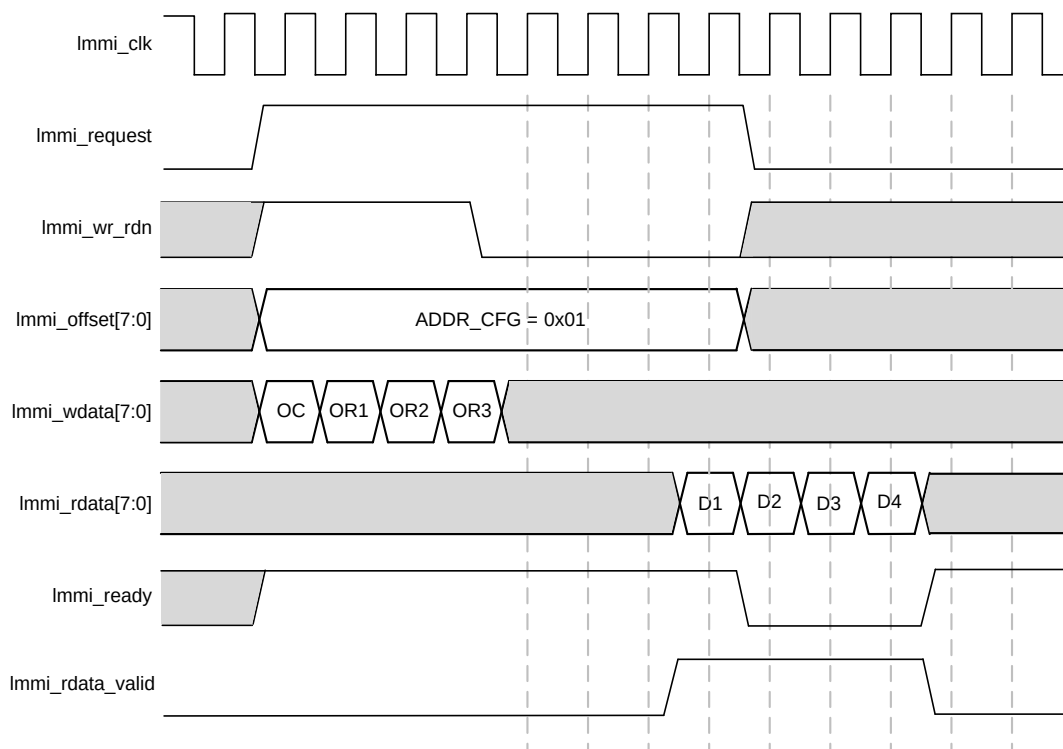
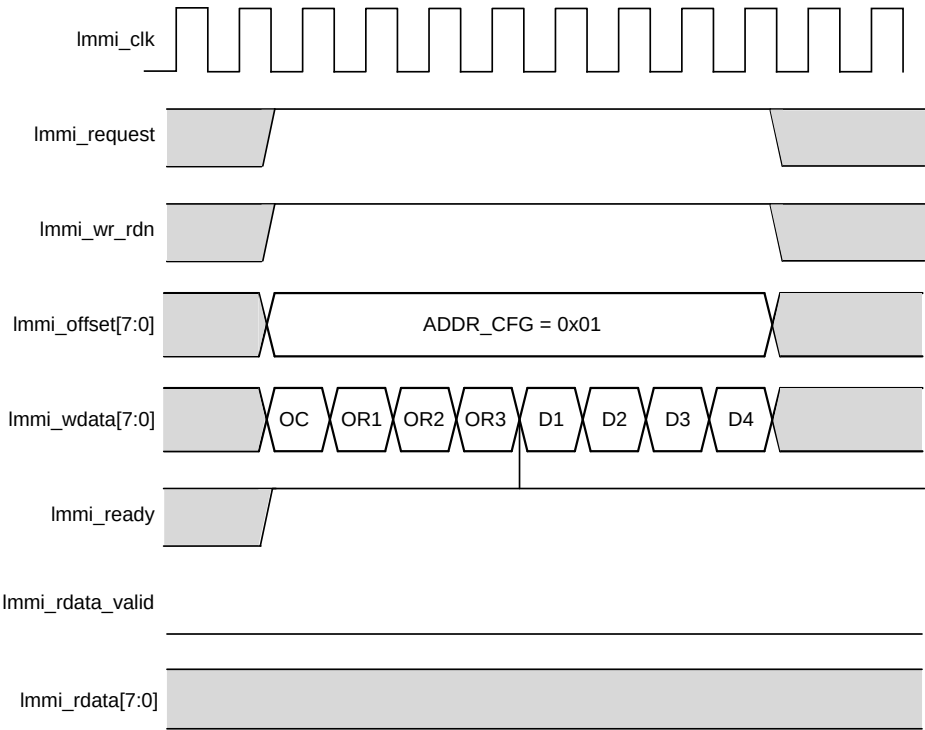
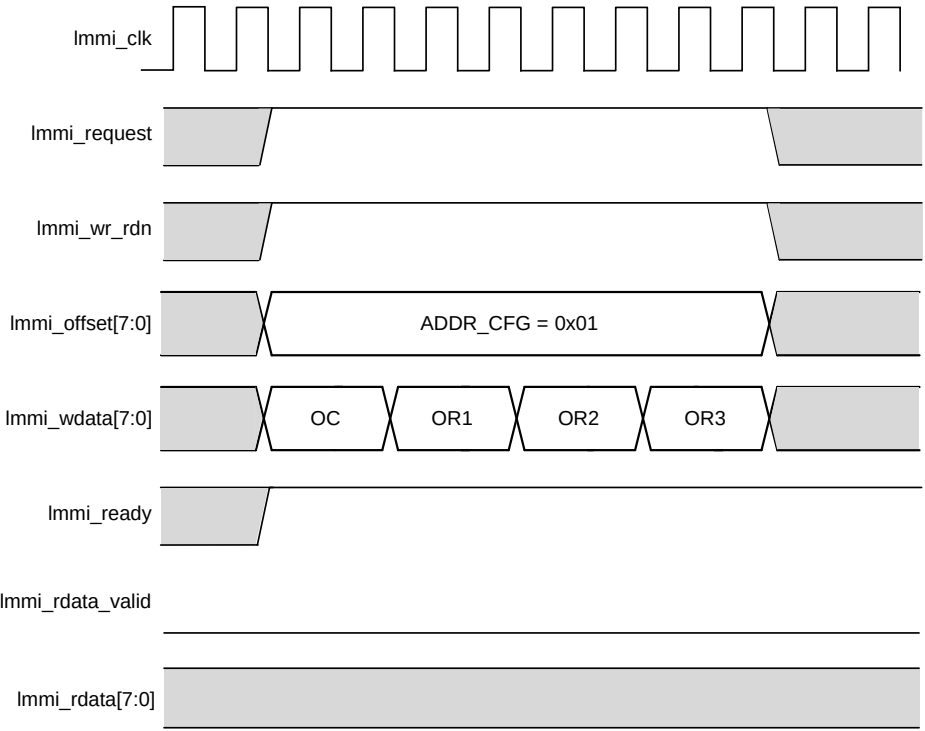

Figure D.3. LMMI Class A Commands Execution
Figure D.4. LMMI Class B Commands Execution
Figure D.5. LMMI Class C Commands Execution
The CONFIG_LMMI(A) primitive has a hardware assigned Immi_offset with ADDR_CFG=0x01. To execute slave configuration command, LMMI host should perform four back-to-back write transfers: 1 byte Opcode (OC), 3 bytes Operands, which are OPERAND1 – OPERAND3 (OR1 –OR3), followed by the optional data bytes. The Class A command, Class B command, and Class C command execution are demonstrated in Figure D.3, Figure D.4, and Figure D.5.